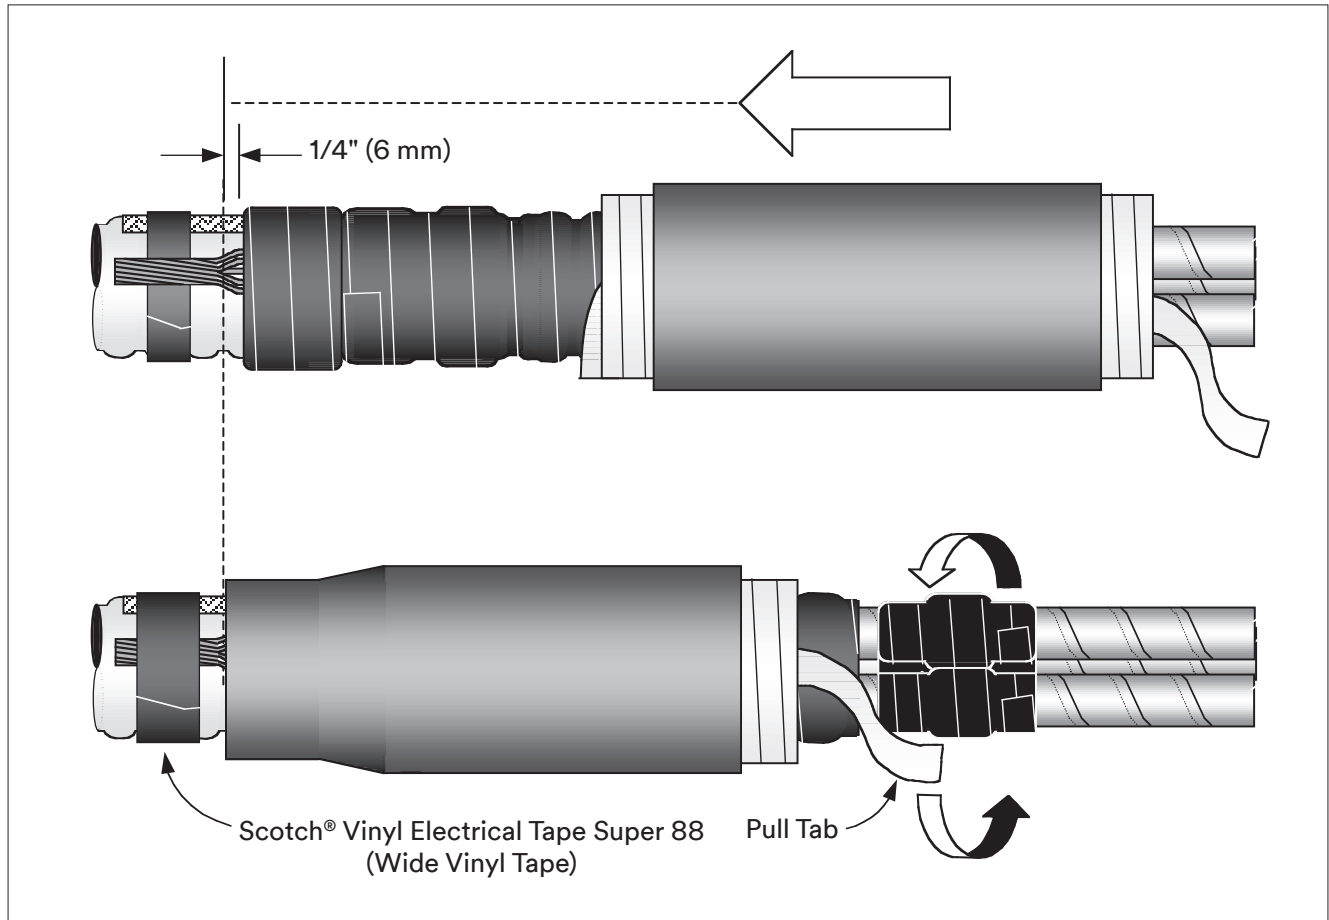

Figure 12
- 3.16 Install cold shrink jacket extension assembly. Align the jacket seal tube (not the plastic support core) to overlap ground wire seal area by approximately 1/4" (6 mm). To install, pull loose core end, while unwinding counterclockwise around the cable. (Figure 12).
- 3.17 Bind cable ground wire and ground braid tail to cable jacket using Scotch® Vinyl Electrical Tape Super 88 (wide vinyl tape) (Figure 12). Apply at least eight tape layers and wrap only to width of tape roll.